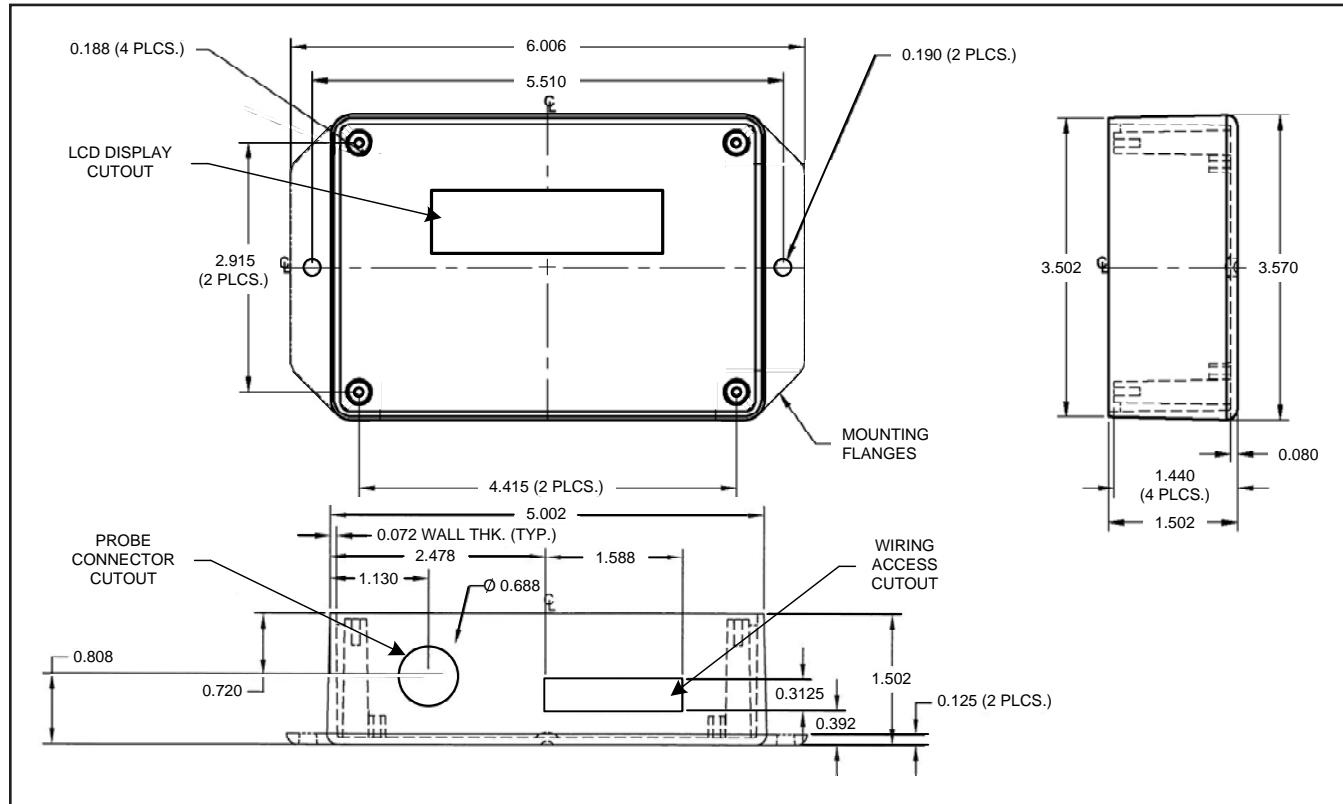

Figure 5. GF-1200-A Transmitter Mechanical Detail Drawing
Mount the transmitter upright in a field accessible location with sufficient service clearance to permit cover removal. The enclosure (Figure 5) is designed to accept signal and power wiring at the bottom-right of the enclosure. Ensure that the planned location of the transmitter will allow the sensor probe cable to reach the receptacle at the bottom-left of the transmitter enclosure.
2. Refer to Figure 5 and mark the two mounting holes located on each of the side flanges of the transmitter.